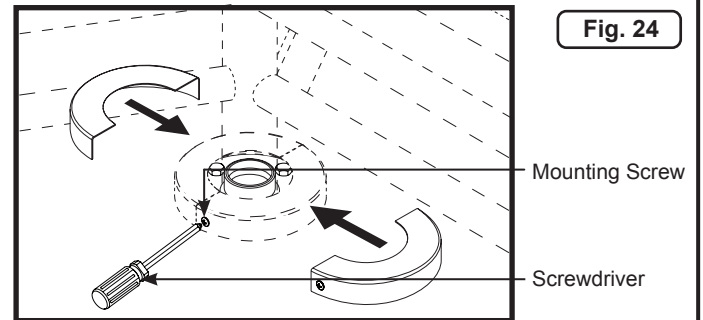

Fig. 24
2. Using a screwdriver, tighten the two mounting screws (Figure 24).